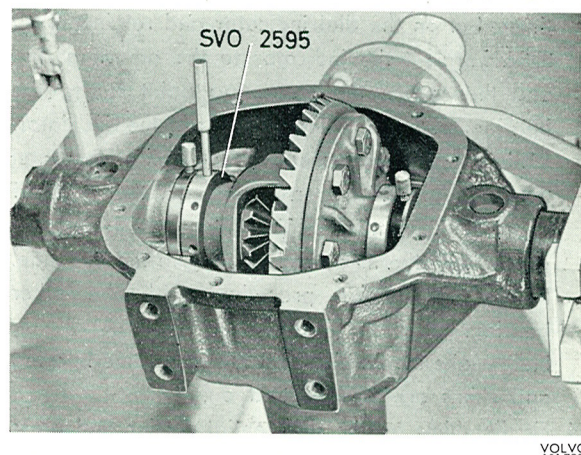

Fig. 4-115. Adjusting rings for differential
1. Lubricate the inside of the adjusting rings SVO 2595 and put them on the differential carrier. The ring with the black-oxidized adjusting ring should be placed on the crown wheel side. Also lubricate the bearing location in the carrier. Place the differential carrier and the adjusting rings in the final drive housing, see Fig. 4-115. Use the dial indicator and adjust in the rings so that the correct backlash 0.15 mm (0.006") is obtained. The tooth flank clearance may vary between 0.13 mm (0.005") and 0.20 mm (0.008"), but should be kept as near 0.15 mm (0.006") as possible. Tighten the lock screws in the adjusting rings.